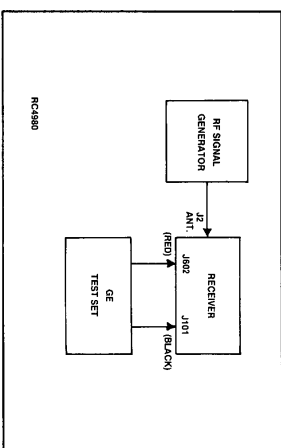

Figure 8 - Receiver Alignment Test Set Up
2. Set up test equipment as shown in Figure 8.